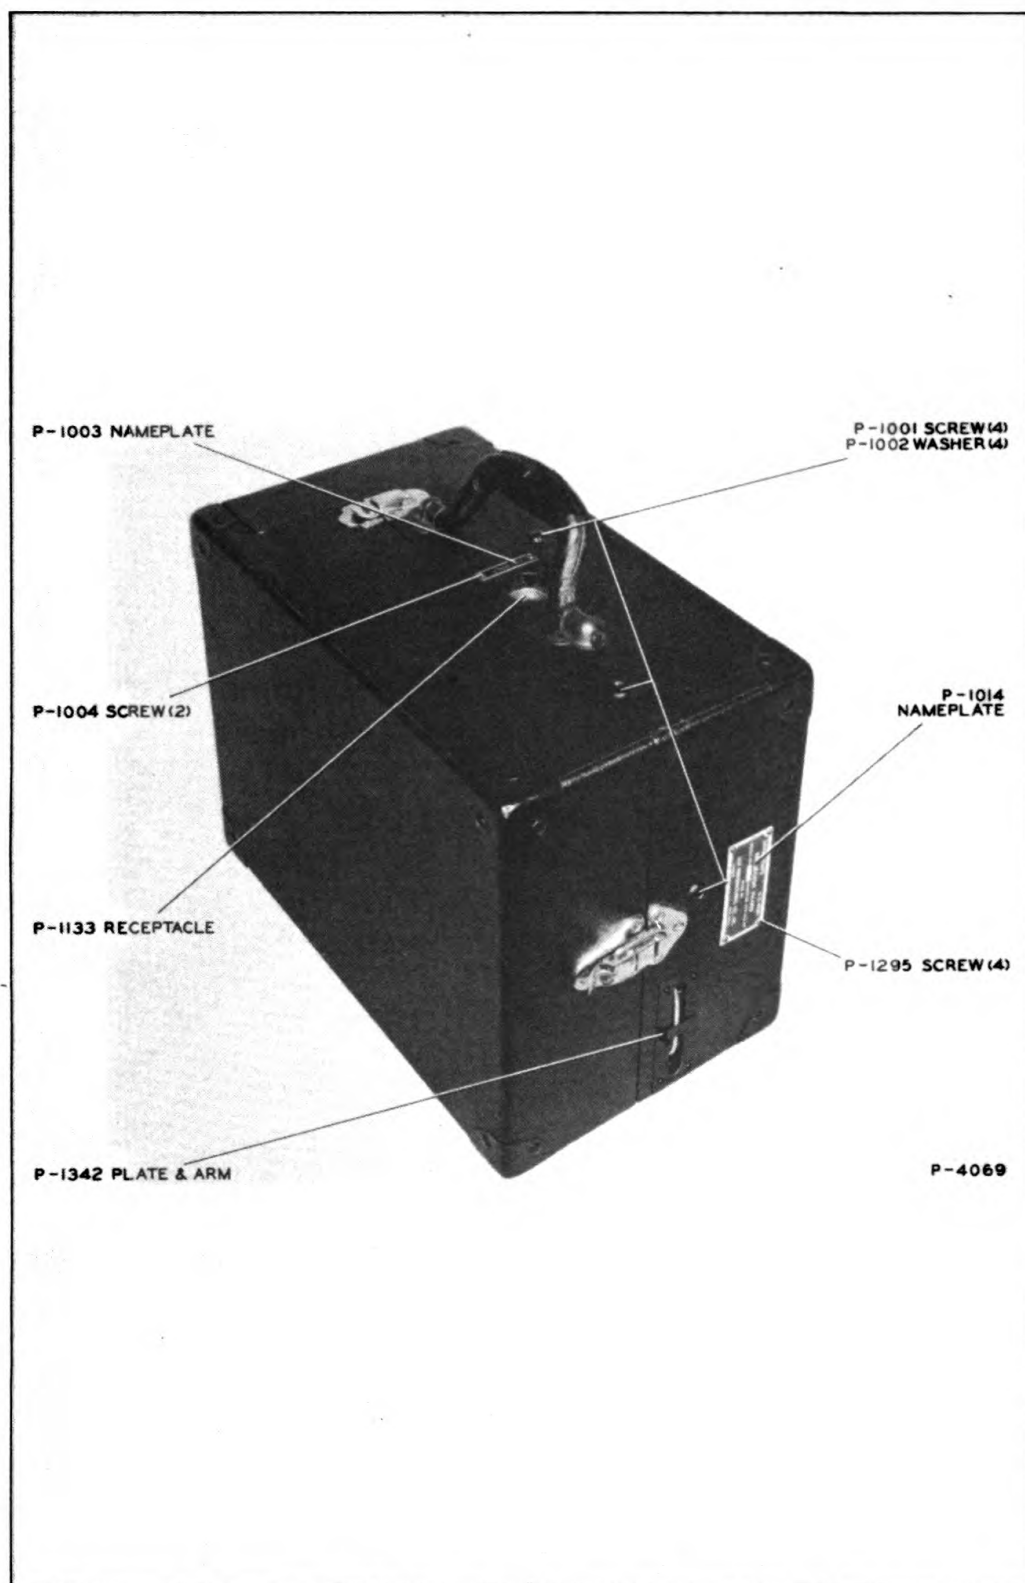

Figure 1-A—16 mm. Projector in Carrying Case
b. The projector and loudspeaker cases are constructed of heavy plywood suitably reinforced, and covered on the outside with a fine grain, black Fabrikoid. The amplifier case is made of steel and finished in black crackle to match the other units. Figures 1-A, 2, and 3-A show views of the three units in their respective carrying cases.